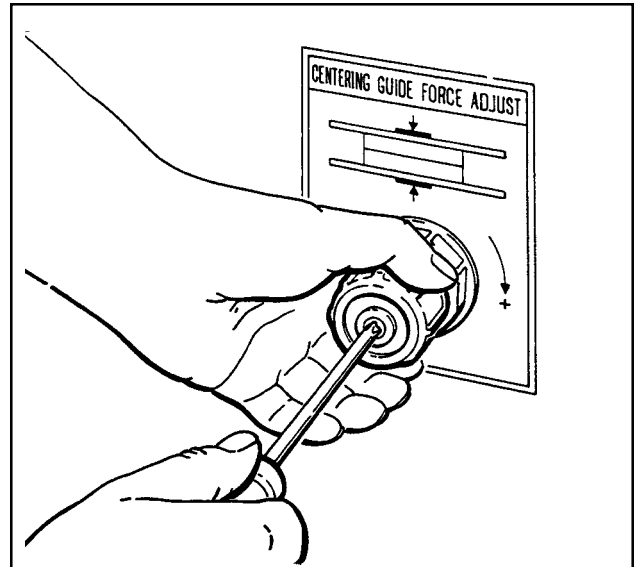

Figure 3-4– Air Regulator, Centering Guides
- ⑥ **Air Pressure Regulator, Centering Guide Force Adjustment** – Figure 3-4